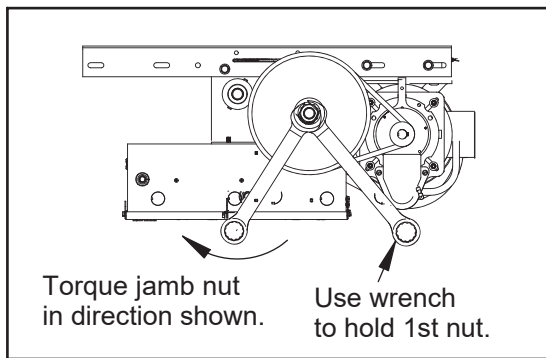

FIG. 10
After final adjustment, **make sure jamb nut is locked to 1st nut.** Using a wrench to hold the 1st nut, use a second wrench to tighten the jamb nut to the 1st nut, making sure nuts are locked together. See fig. 10
4. Adjust clutch as shown in Fig. 10, if necessary. Adjustment may be required after a short break-in period.